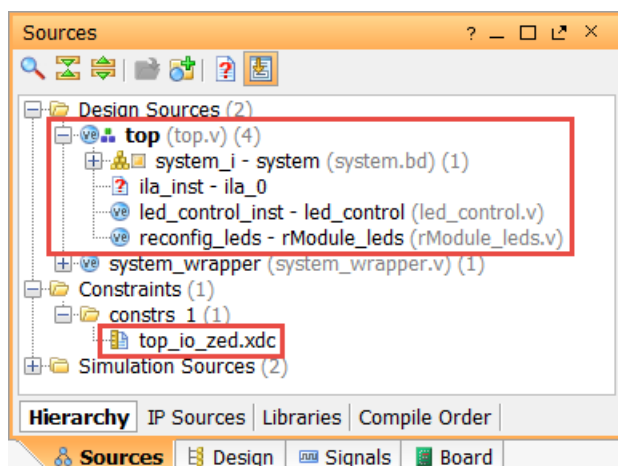

Figure 3. The design hierarchy including the processor system and other top-level modules
- Once the wrapper file is generated, the script will add the provided *top.v* and the static design's rest of the modules. The design hierarchy will look like as shown in Figure 3.